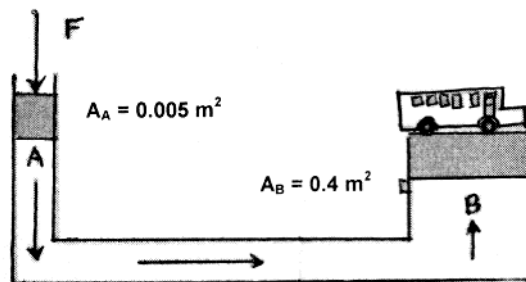

Fig. 2 Hydraulic lift
2. A van of 16,000N is to be lifted using a hydraulic lift as shown in Fig 2. Determine the force required to lift the van if areas  $A_A = 0.005 \text{ m}^2$  and  $A_B = 0.4 \text{ m}^2$ .